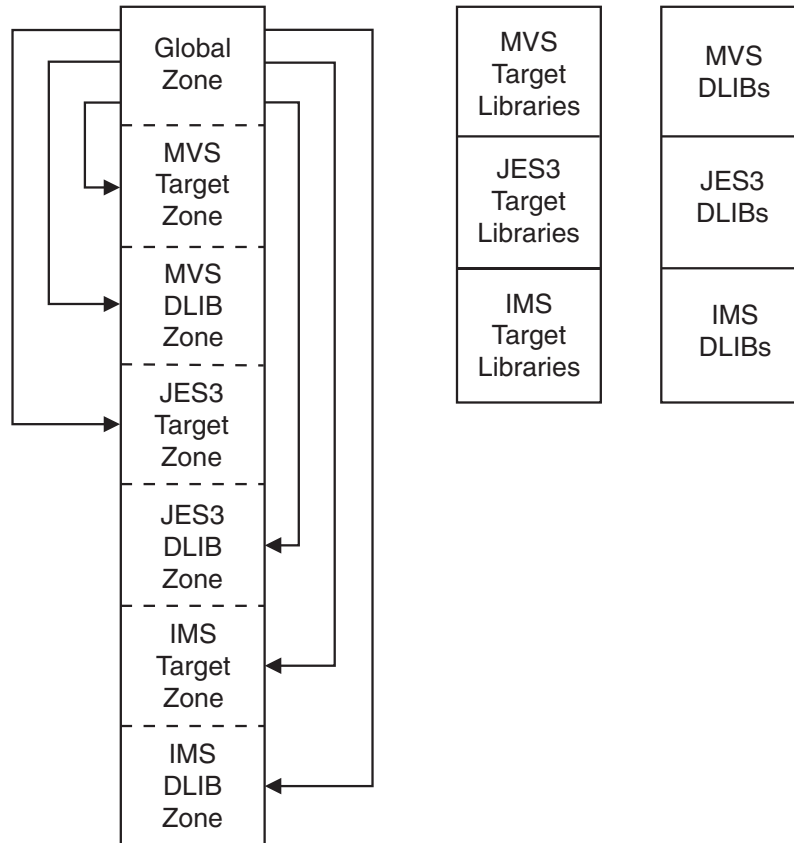

Figure 27. Using One CSI for the Whole System
**Example 2: Using a Single CSI for the Whole System:** In Figure 27 on page 65, all the SMP/E control information for the system is contained in a single CSI. The system structure is reflected by separate zones for MVS, JES3, and IMS. This CSI structure provides a single control point from which to manage or query the entire system.